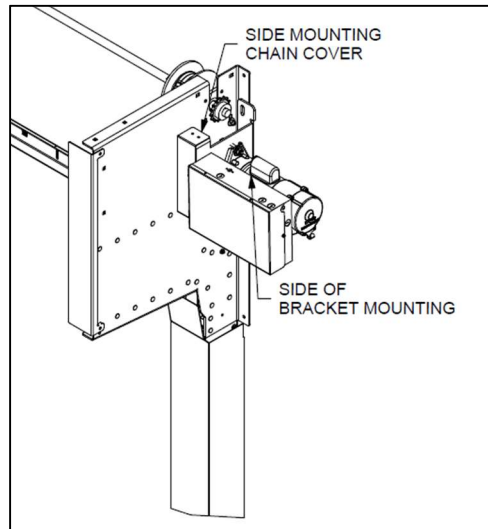

Figure 39 – SIDE BRACKET CHAIN COVER
- Side mount configuration: Align the top holes of the chain cover with the top of the motor bracket and align the slotted holes with the holes in the bracket. Then, use the #10 self-drilling screws to attach the chain cover to the motor bracket at the top and the wall fasteners used to mount the bracket for the bottom slots. Reference **Figure 39**.